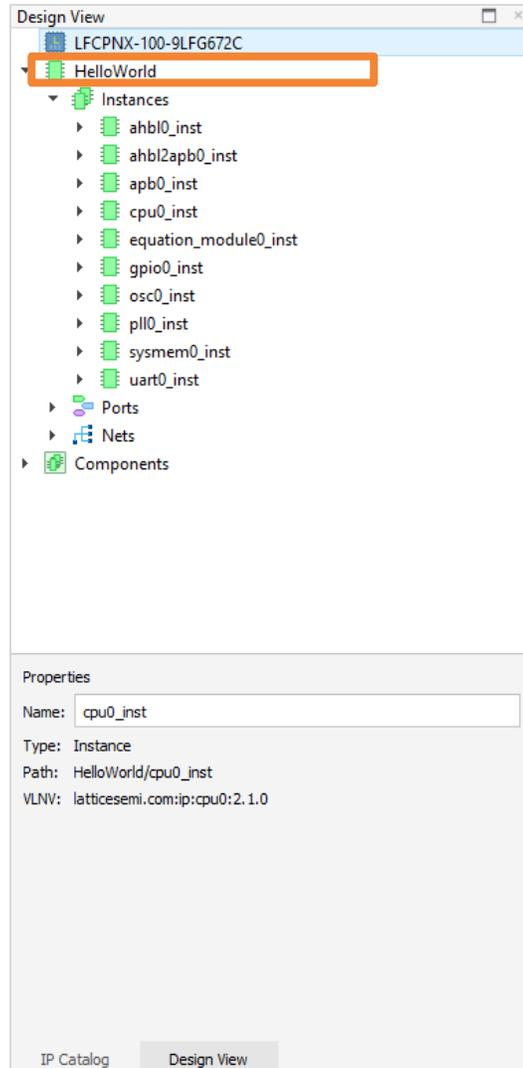
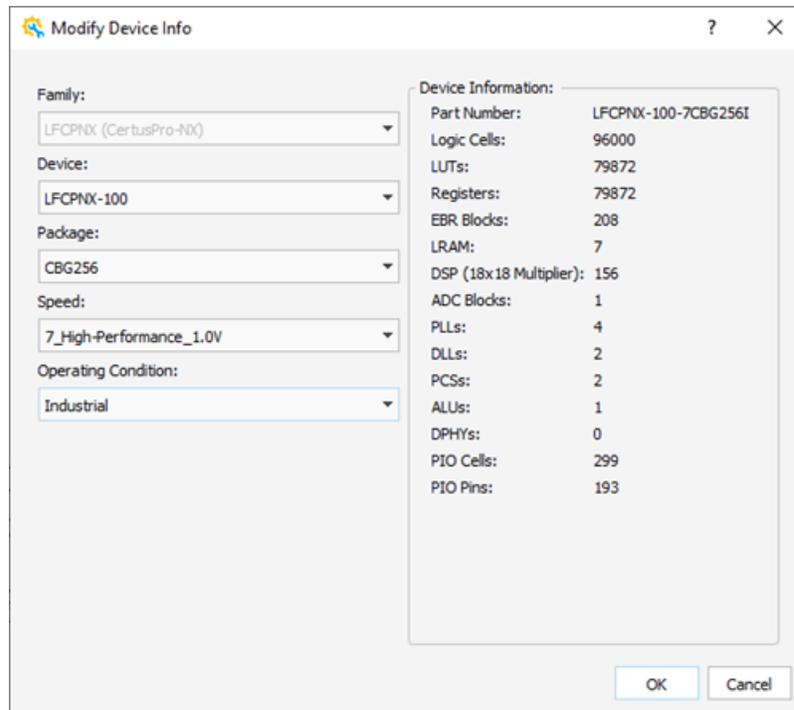

Figure 2.86. Design View of Device Part Number
Figure 2.87. Modify Device Info
1. Double click the device part number from the Design View (Figure 2.86), the Modify Device Info wizard pops up (Figure 2.87).
2. Use the drop-down menu to choose the desired device in **Device** filed in the Modify Device Info wizard (Figure 2.87). Use the drop-down menu to change the package, speed and operating condition in **Package, Speed, Operating Condition** filed.